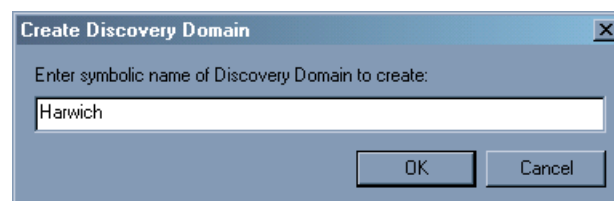

Figure 28 Create Discovery Domain dialog
2. Type in the name of the DD you want to create (Figure 28), and click **OK**.